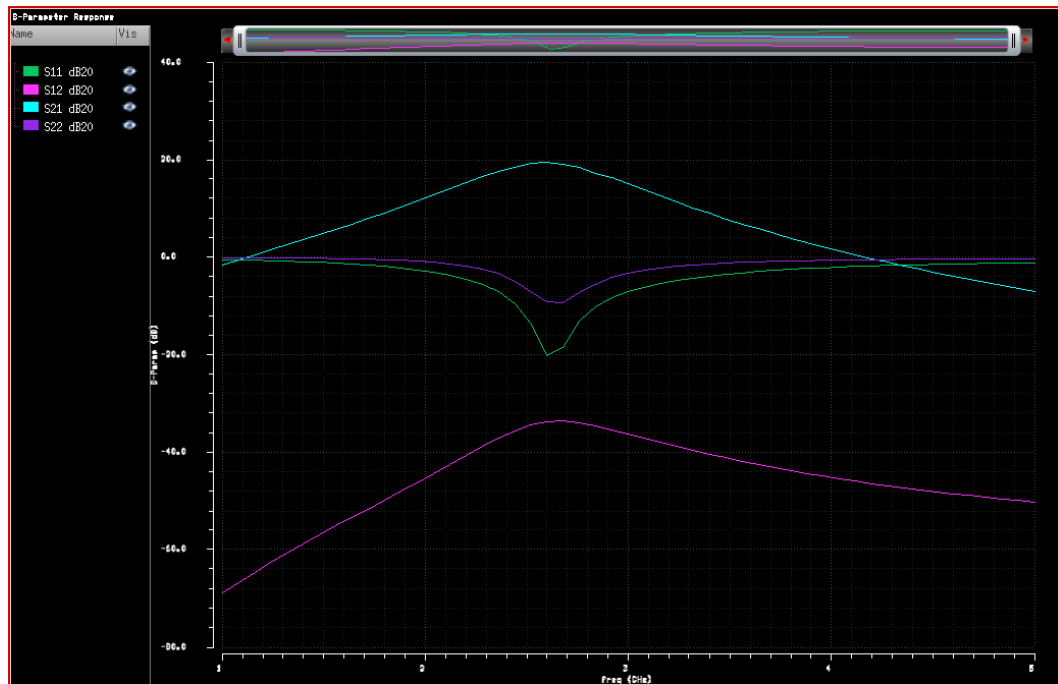

Fig. 3. LNA s-parameters plots
- Click S11 (S12, S22, and S21) and the corresponding parameters are plotted. The results should look similar to Fig. 3.